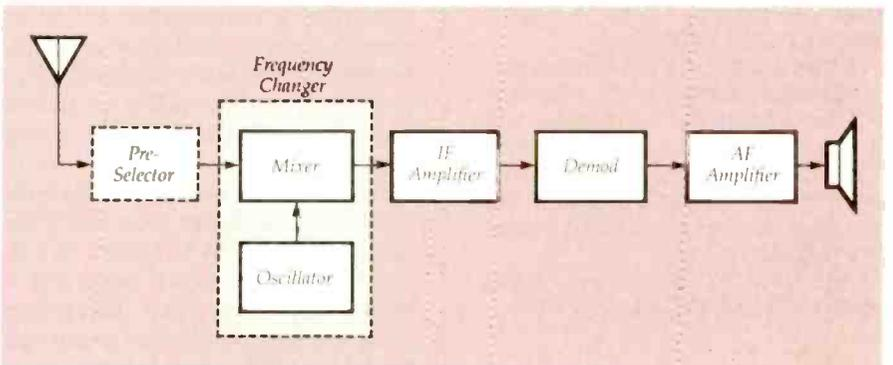

FIG. 11—BLOCK DIAGRAM of a super heterodyne receiver.
A block diagram of a basic superheterodyne receiver is shown in Fig. 11. The preselector consists of one or more tuned RF stages, but in less expensive receivers it is often omitted. As in the heterodyne receiver, the incoming signal is fed to a mixer, where it beats with a signal supplied by a local oscillator. However, unlike the heterodyne receiver, the local oscillator is designed so that the difference frequency is on the order of several hundred (or more) kHz. Known as the *Intermediate Frequency* (IF), the difference signal is then amplified, demodulated to recover the audio signal, and then the audio is amplified again. The great advantage of the superheterodyne design was, and still is, the large amount of selectivity that can be supplied by the IF stages, which are fixed-tuned to a selected frequency. R-E